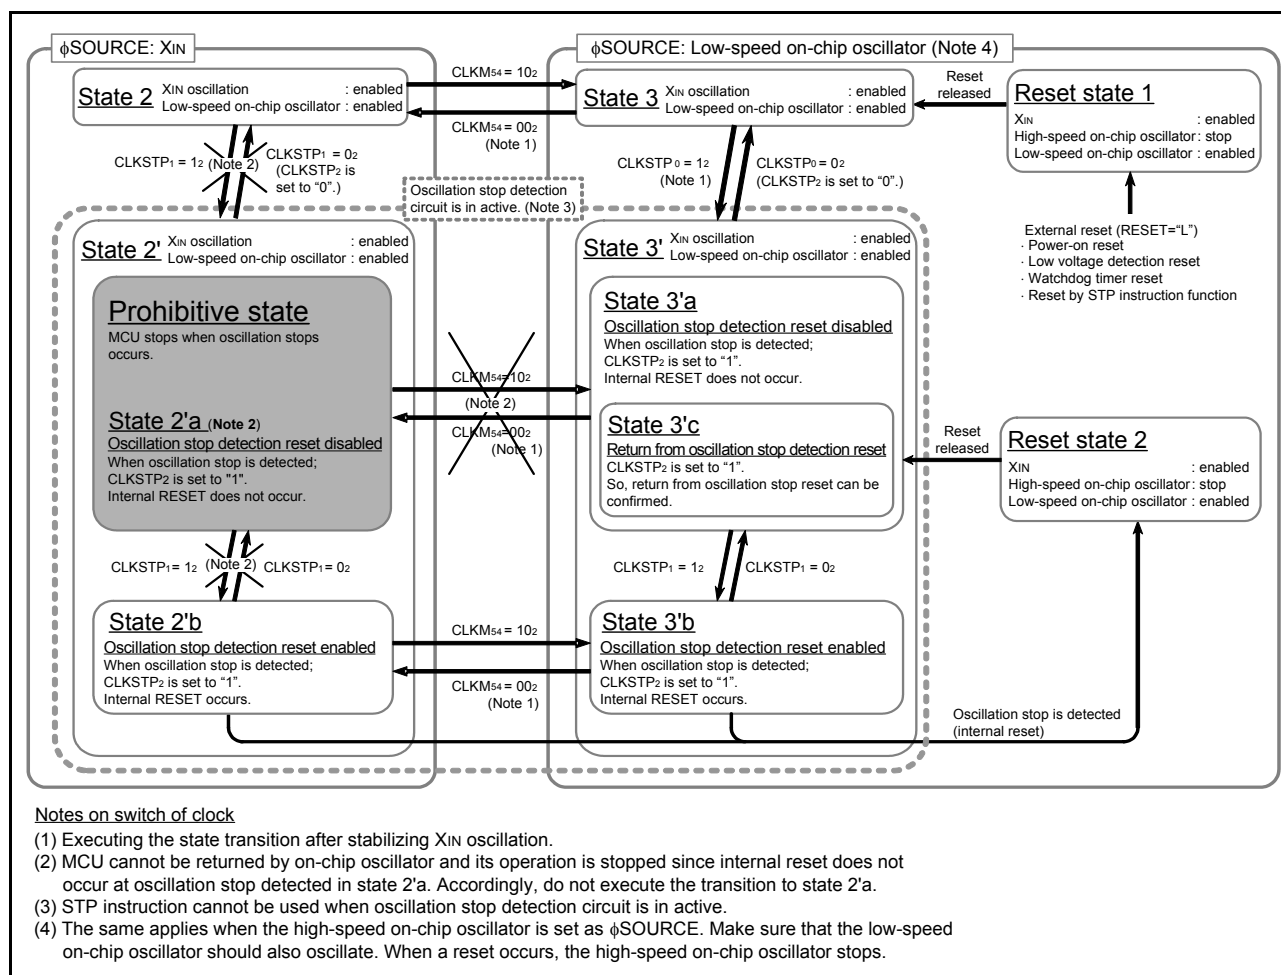

Fig 65. State transition of oscillation stop detection circuit
- (1) Do not execute the transition to “state 2'a” shown in Figure 65 because in this “state 2'a”, MCU is stopped without reset even when XIN oscillation is stopped.
- (2) XIN oscillation stop detection function active bit is not cleared by the oscillation stop detection reset. Accordingly, the oscillation stop detection circuit is in active when system is released from internal reset cause of oscillation stop detection.
- (3) Oscillation stop detection status bit is initialized by the following operation.
- (4) The oscillation stop detection circuit is not included in the emulator MCU “M37549RLSS”.